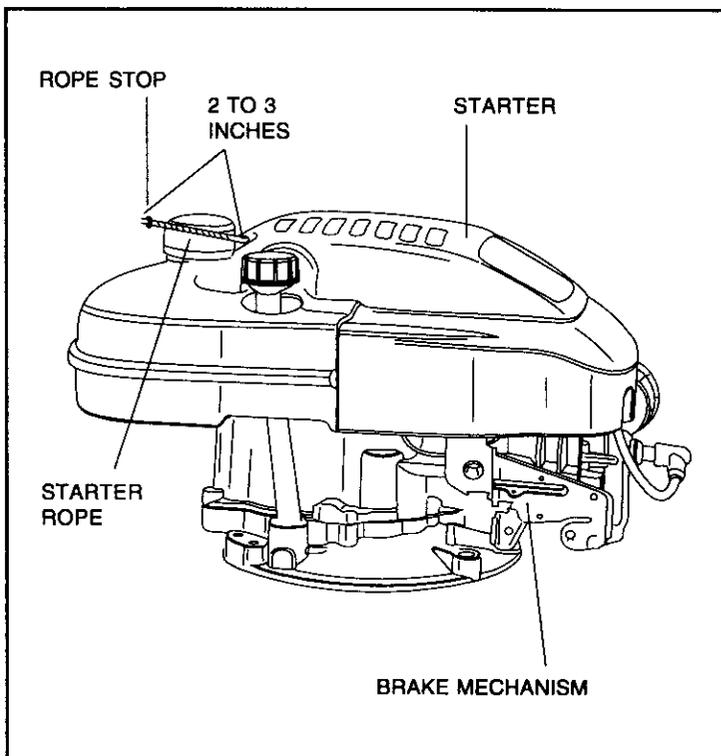

Figure 2
② **INSTALL ENGINE BRAKE CABLE AND STARTER ROPE: BRAKE CABLE** (see Figure 2):
4. a) **RECOIL STARTERS:** Grasp starter handle (figure 2) and pull rope out slowly until you feel drag. Let rope rewind slowly. Pull rope with rapid, full arm stroke. Return rope slowly to original position.